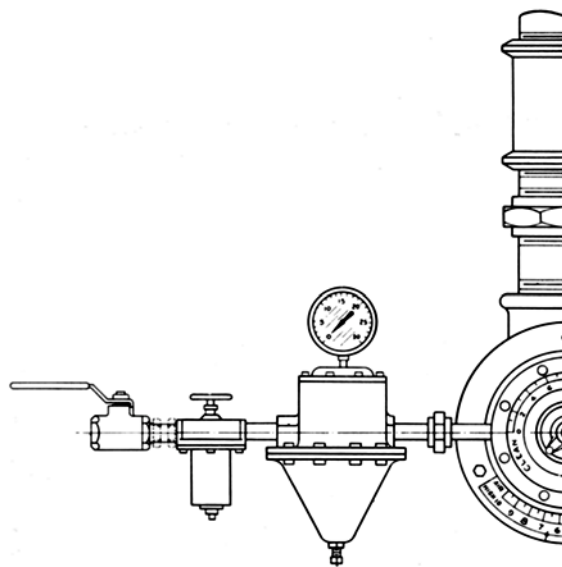

Figure 3. PRO regulator (with optional pressure gauge) and edge plate filter in a Hauck 780 PAC series burner supply line.
1. Ensure that both of the elements required upstream of the PRO have been properly positioned and installed. For proper installation, refer to the instruction sheets that accompany each unit. As depicted in Figure 3, the following items should be present: